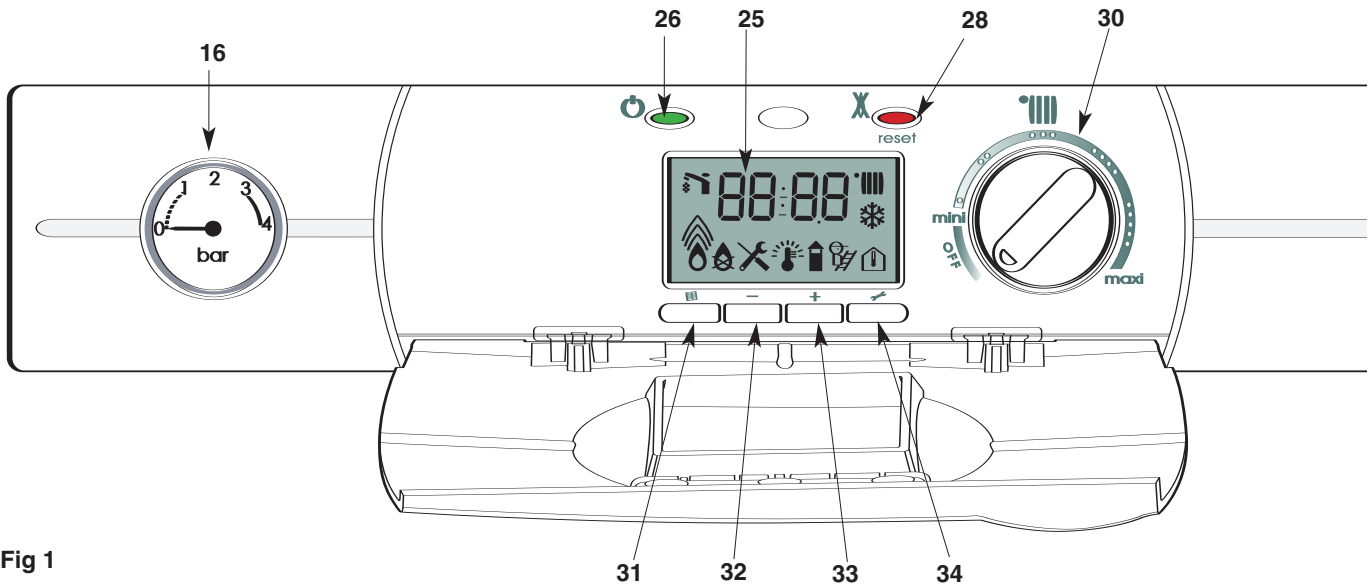

Fig 1
### Control panel (Fig.1)
1. Check that the pressure in the central heating system is above 0.7 bar and below 1.5 bar on the pressure gauge **16** (Fig. 1) should it be necessary to re-pressurise the system, ensure the filling loop **45** (Fig. 2) is attached, open the filling taps **43** & **44** (Fig. 2), the pressure gauge will now start to rise, once the pressure reads 1.0 bar, close the filling taps and disconnect the filling loop, periodically check the pressure gauge for correct pressures.
2. Check that the gas service tap is opened at the gas meter and main power is on. Green indicator **26** (Fig. 1)  lit.
Turn the Central heating knob (**30** Fig.1) between mini and maxi.
Turn the control knob **30** (Fig. 1) to the **OFF** position to deactivate the Central Heating. Leave the ON/OFF button (**26** Fig. 1) On (green light).
Press the ON/OFF button (26 Fig.1) the green light will go out.